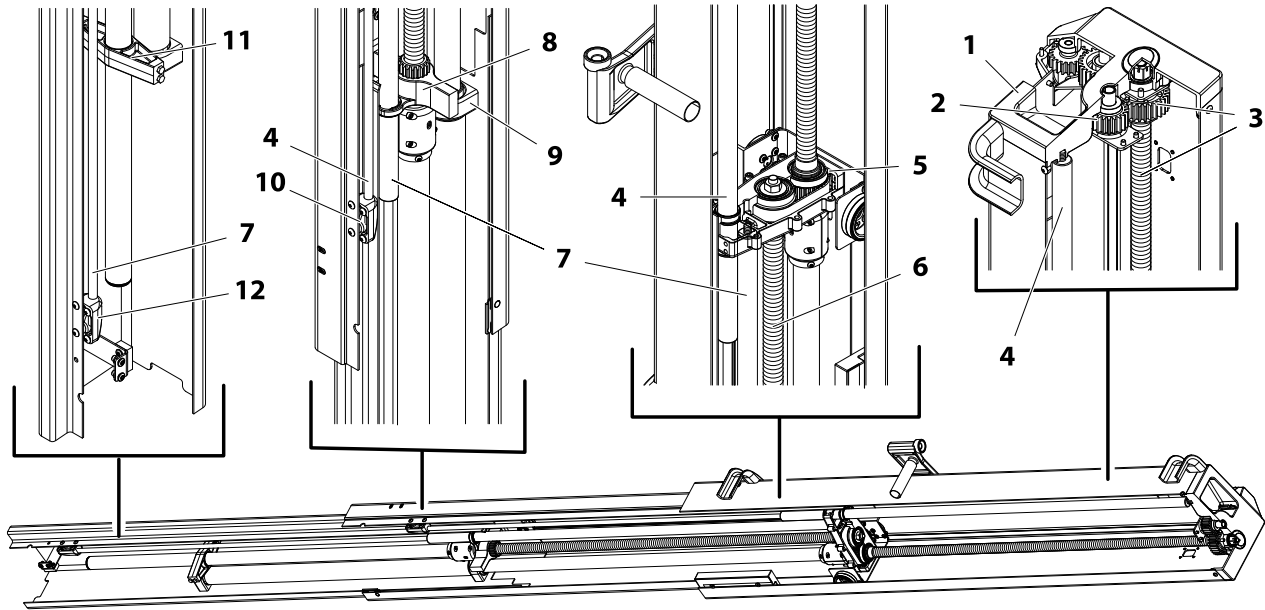

Figure 6-1. FT70 and FT140 - Mast Component Overview
- a. Slide special tool into the bottom of the mid-mast section to engage the outer to mid-mast section gas strut cylinder rod mount - *Item 10, Figure 6-1. on page 6-9*
- d. Remove the four (4) hex drive screws holding the strut mount to the mid-mast section.
- e. Once all four screws are removed, slowly unscrew the tool block releasing the remaining pressure from the gas strut, approximately one (1) to two (2) inches.
4. Next release the pressure from the mid to inner-mast section gas strut - *Item 12, Figure 6-1. on page 6-9, same as the outer to mid-mast procedure.*
- c. Remove the four (4) hex drive screws holding the strut mount to the mid-mast.
- from the gas strut, approximately one (1) to two (2) inches.
Check the nylon gas strut guides, where the gas struts pass through the gear box (item 5 - Figure 6-1. on page 6-9) and the drive screw attach bracket (item 8 - Figure 6-1. on page 6-9) for excessive wear or breakage. Replace if necessary.